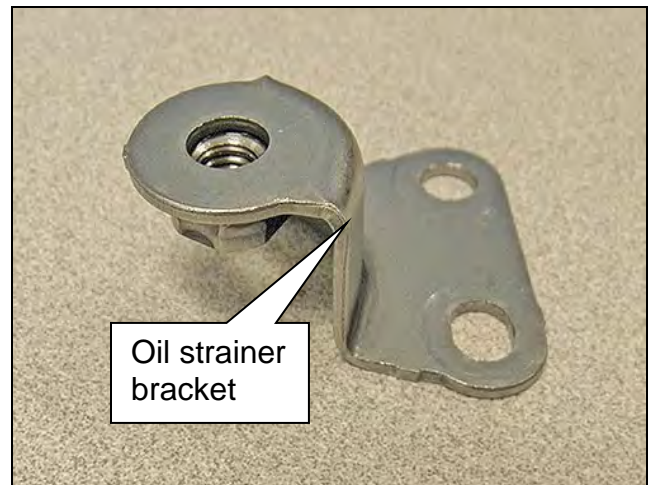

Figure 25
1. Discard the oil strainer bracket (Figure 25).